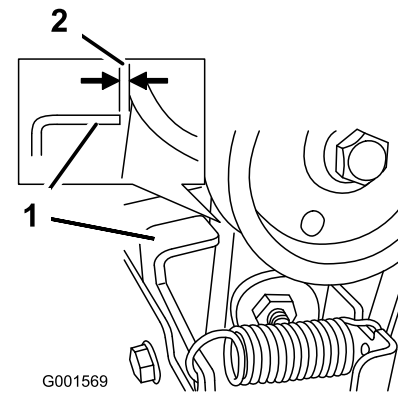

Figure 45
3. With the auger/impeller lever disengaged, ensure that the gap between the auger clutch assembly and the tab is 1/16 inch (1.5 mm) (Figure 45).